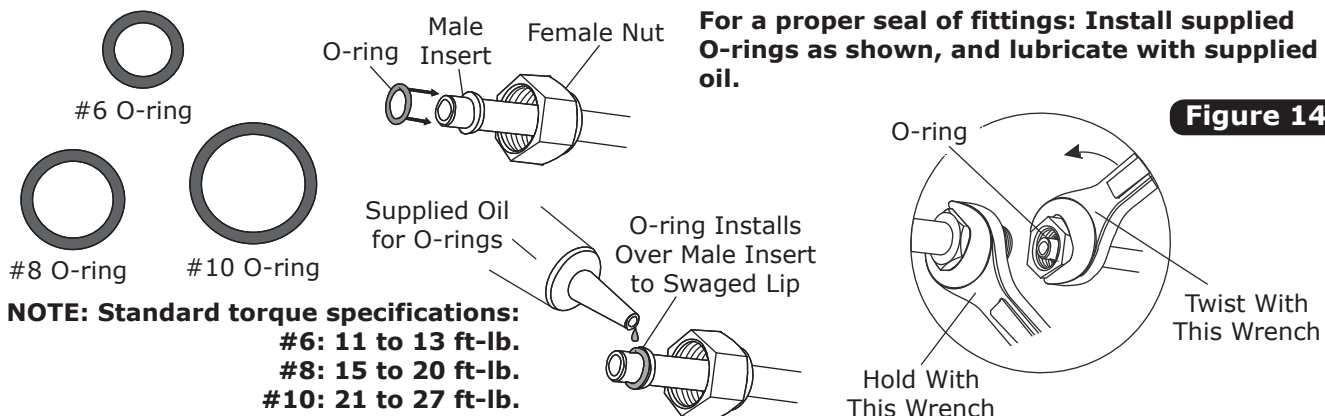

**Figure 13**
2. In line with the drain, lightly make a mark on the firewall. Measure 1" down and 2 1/2" to the left and drill a 5/8" hole through the firewall (See Figure 13, below).
3. Attach the drain hose to the outlet on the bottom of the evaporator unit, and route it through the firewall (See Figure 13, below).